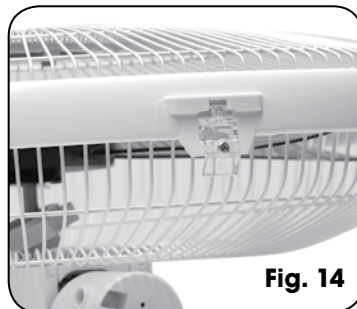

Fig. 14
9. Close and lock the clear plastic clasp at the bottom of the front grille over the rear grille rim. Refit the small screw previously removed through the screw hole located at the bottom of the clear plastic clasp and tighten securely (See Fig 14).